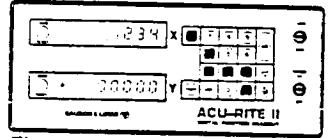

Figure 7
4. Enter the preset value by pushing the appropriate digit keys, including the decimal point (Figure 7). If an error is made, push the CLEAR key and start again.